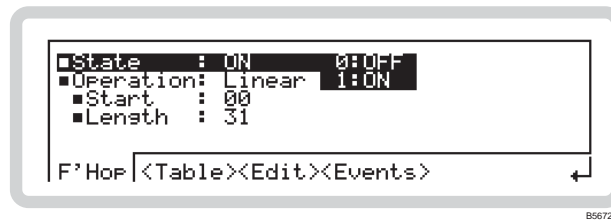

Fig. 3-52 Frequency hopping — F'Hop
- 3 Press to show the main screen, and touch the soft box to select the function. Touch and press to view the frequency hopping screen (Fig. 3-52).